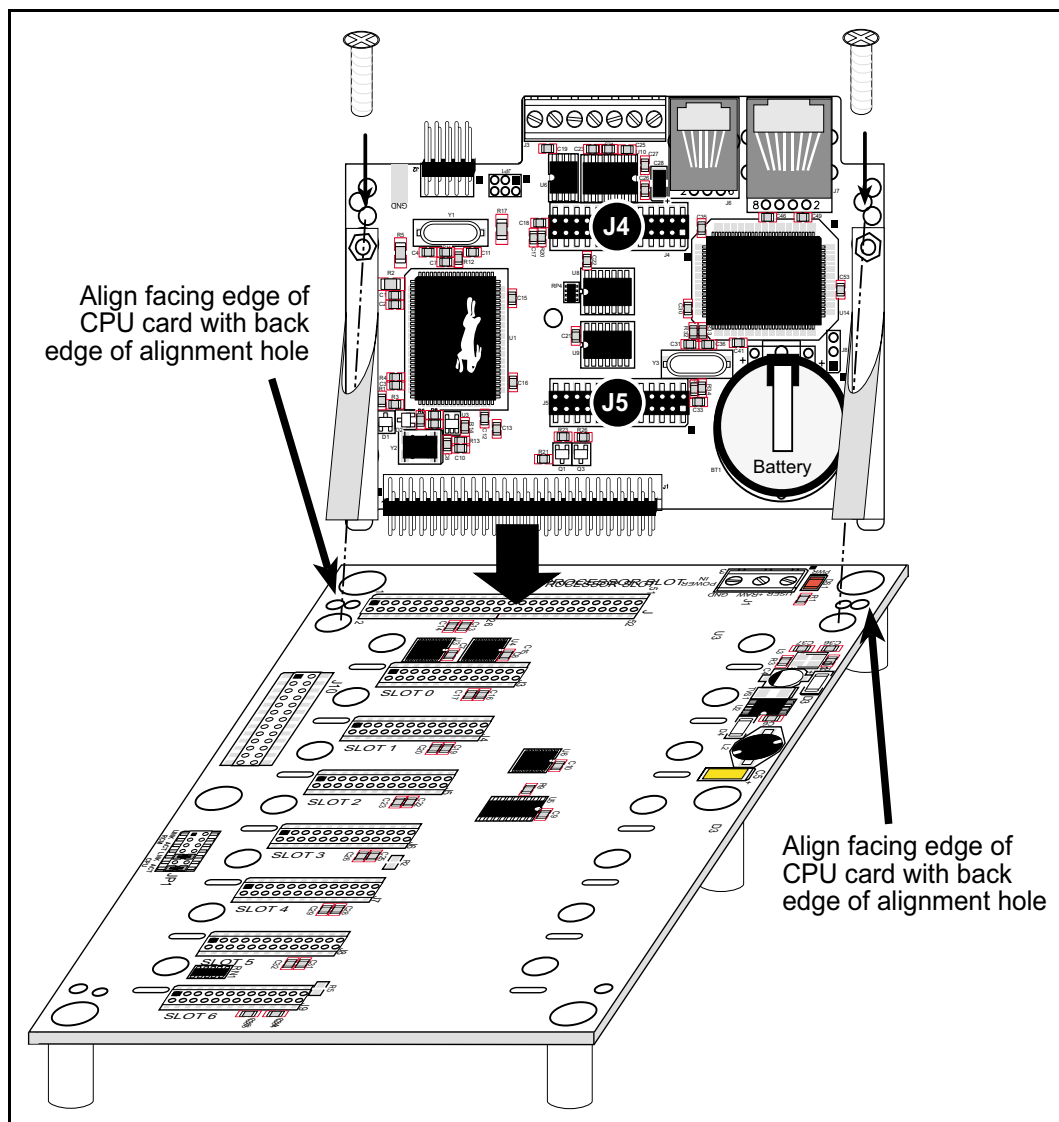

Figure 1. Attach the CPU Card to the Backplane
1. Orient the backplane with the **PROCESSOR SLOT** facing away from you as shown in Figure 1.
2. Position the CPU card above the backplane as shown in Figure 1.
3. Carefully insert the CPU card header into the **PROCESSOR SLOT** on the backplane and line up the facing edge of the CPU card with the back edge of the alignment holes on the backplane as shown in Figure 1.